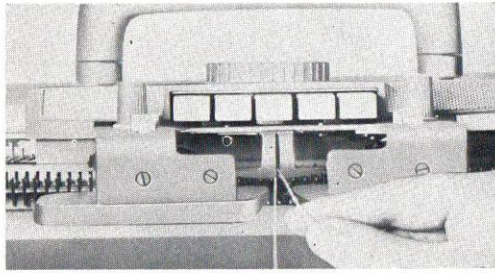

Fig. 4
- c) Pull enough yarn down from automatic take up spring to extend about 8 inches below carriage. When removing the yarn, pull yarn down and over the yarn holder spring. (See Fig. 4)